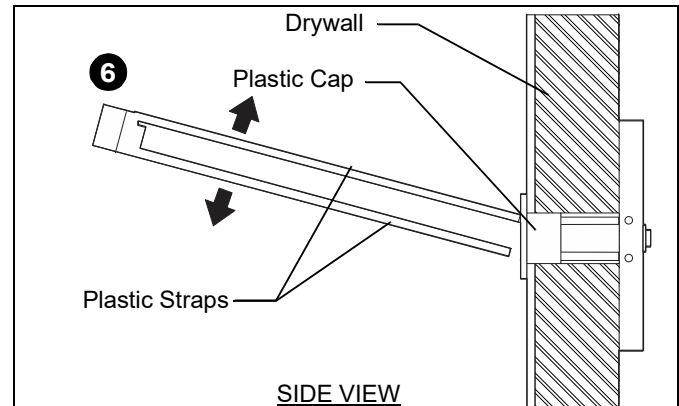

Figure 4
6. Snap off plastic straps on anchor at wall by pushing side to side, snapping off straps level with flange of plastic cap. (See Figure 4)